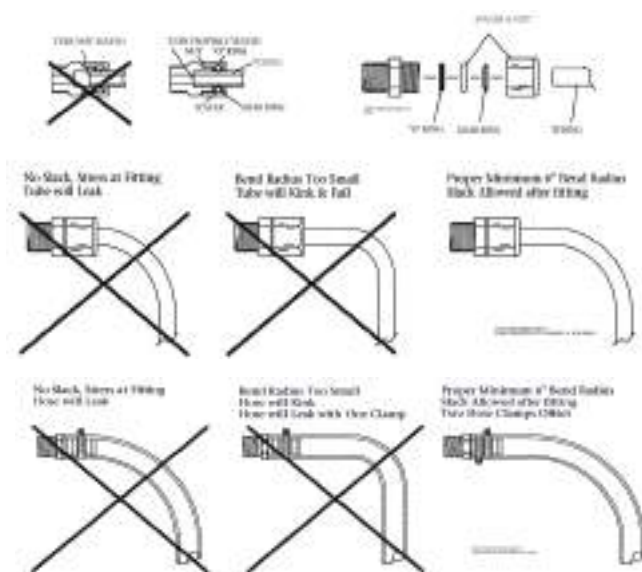

Figure 5c - Always allow slack in all tube and hose lines.
CAUTION (Refer to fig. 5c, pg 5-5): Always allow slack in all tube and hose lines. Never cause the tube or hose to immediately bend from the fitting. Allow the line to enter or leave from the fitting in a straight manner for several inches to ensure proper connection, to relieve stress to the fitting and tube or hose, and to allow ease of detachment and reattachment during maintenance or repair.
- Ensure all High Pressure Hoses supplied for the RO Pressure Vessel assembly have sufficient slack and are not pulled tight into a sharp or immediate bend. *(Refer to fig. 5c)*